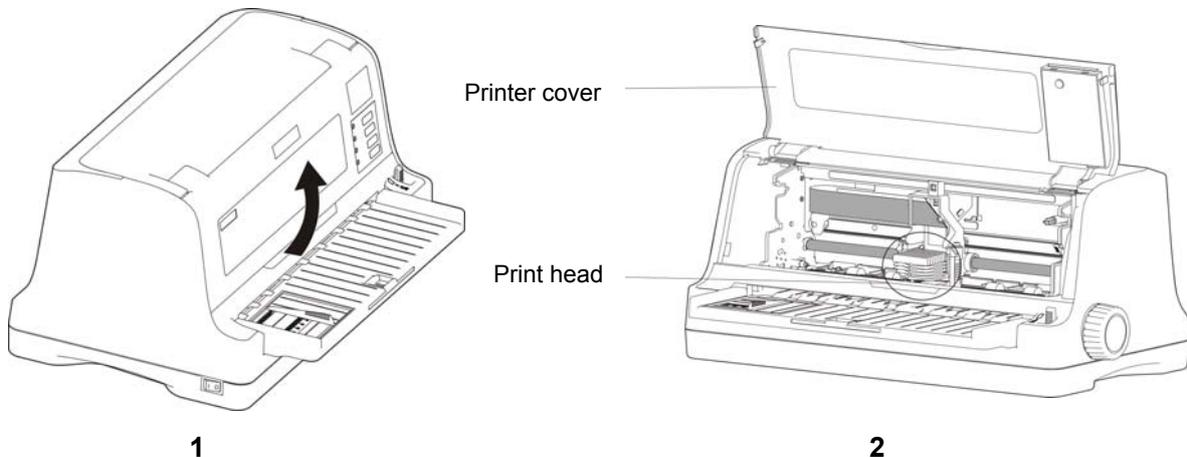

Figure 2-8 Open the printer cover
2. Open the printer cover upwards (as shown in Figure 2-8).